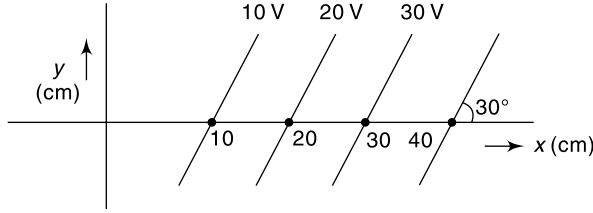
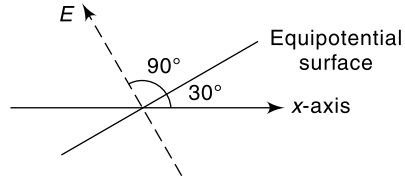

Fig. 2.15a Equipotential surfaces (linear)
Fig. 2.15c Direction of field of equipotential surfaces shown in Fig. 2.15a
2.8 Some equipotential surfaces are shown in Fig. 2.15a and 2.15b. What are the magnitudes and directions of the electric field intensity for these two figures?
Thus for the equipotential surfaces of Fig. 2.15a, the field will be at an angle making an angle 120° to the x-axis (Fig. 2.15c)